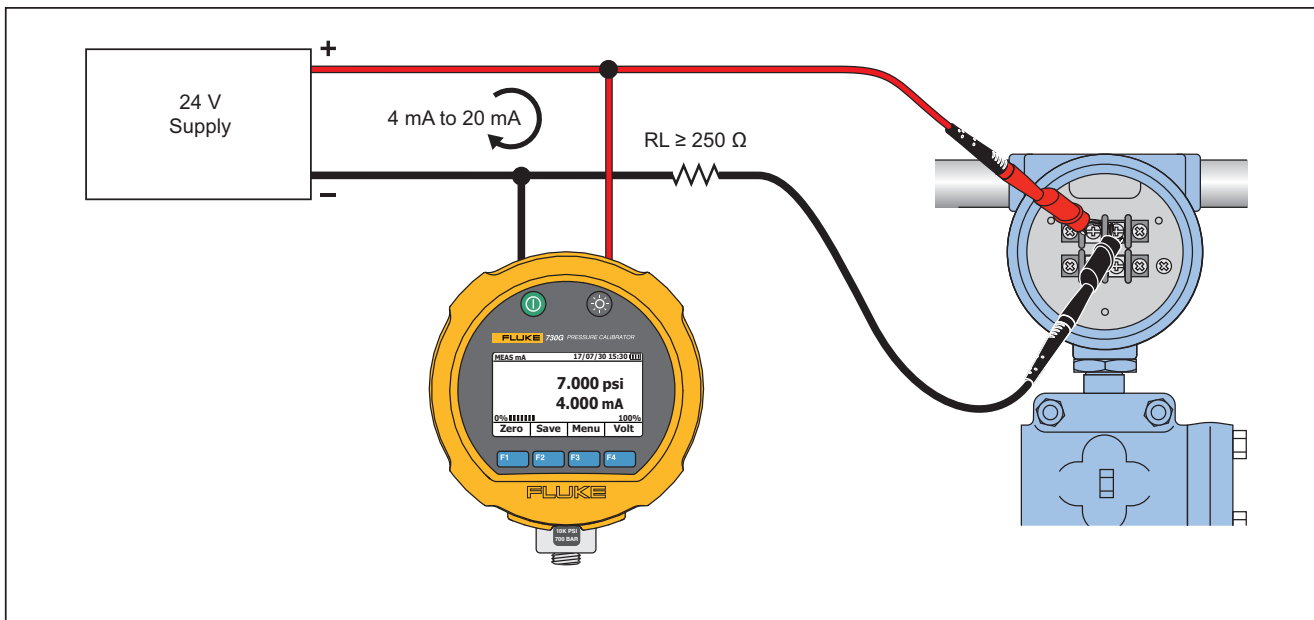

Figure 11. External Loop Power, External Resistance
1. Connect the Product to the HART device. See Figure 11.